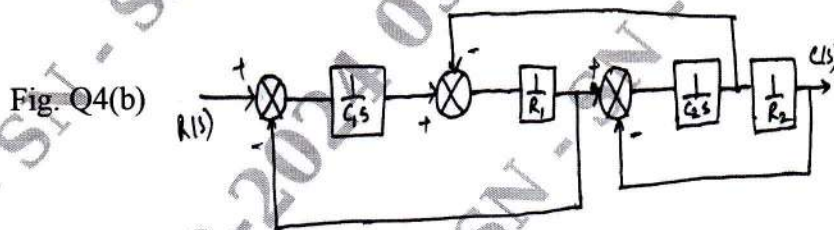

Fig. Q4(b)
- b. For the block diagram, shown in Fig. Q4(b), determine the transfer function $\frac{C(s)}{R(s)}$.